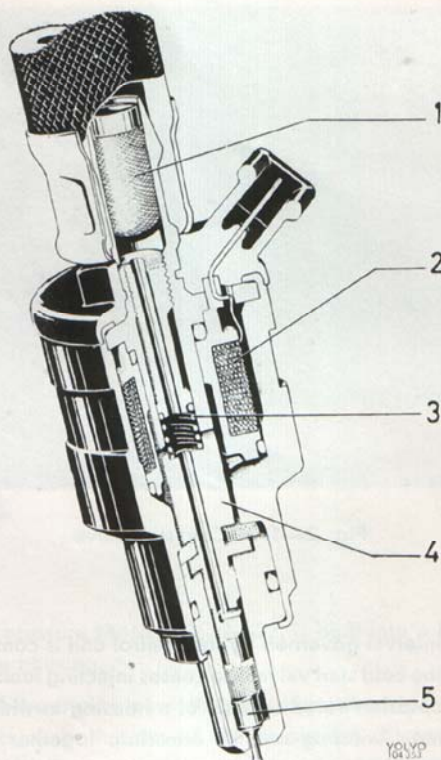

Fig. 2-16. Injector
This means that injectors 1 and 4 inject when their respective intake valve is open but that injectors 2 and 3 inject when their respective intake valve is closed. Fuel in the latter case is stored in the intake port until the intake valve opens. The injector consists of a housing containing a sealing needle, magnetic winding and return spring, see Fig. 2-16. When the magnetic winding (2) is not in circuit, the return spring (3) presses the sealing needle (5) against a seat and this closes off the supply of fuel.